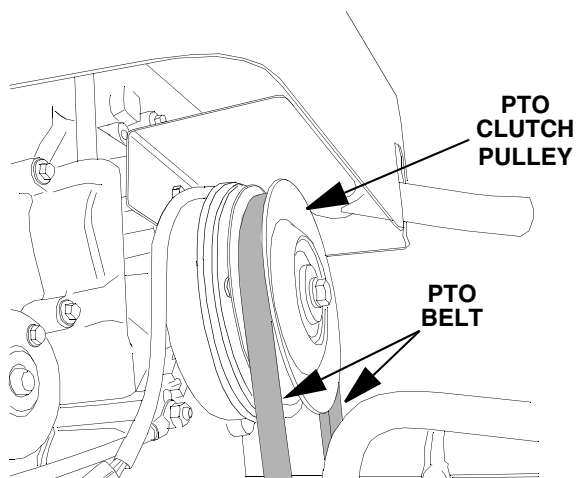

Figure 37
4. Open the tractor hood and remove the forward end of the PTO belt from the PTO clutch pulley on the front of the engine (See Figure 37).